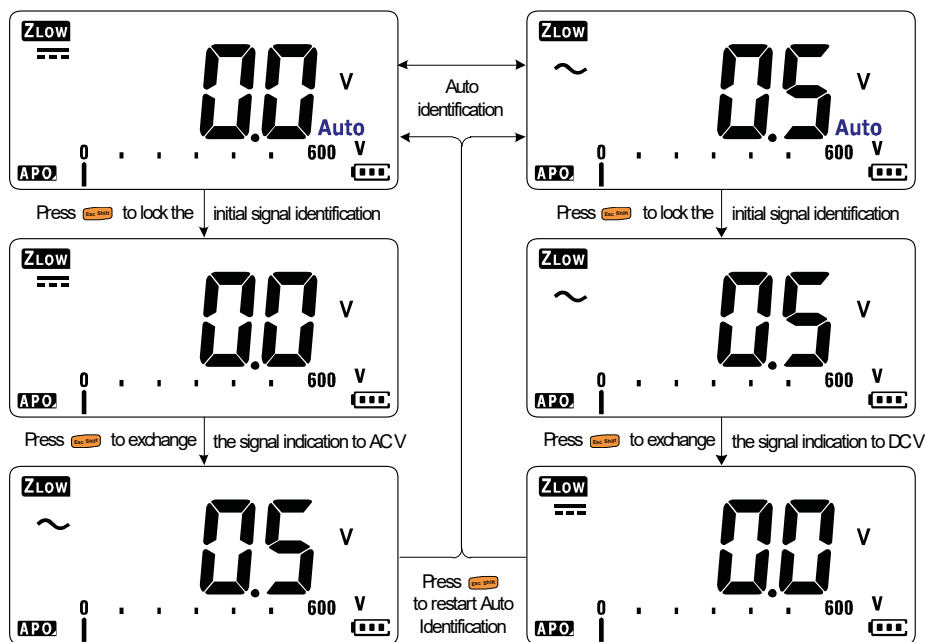

Figure 2-7 VZLOW auto identification flow
- Press **Esc Shift** once to lock the initial signal identification ( $AC\ V$  or  $DC\ V$ ). Press **Esc Shift** again to exchange the  $AC$  and  $DC$  voltage indication on the primary display. Pressing **Esc Shift** for the third time will restart the auto identification of the signal. See Figure 2-7 to learn more.